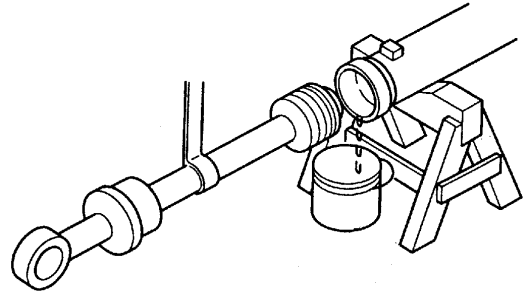

Figure 9
2. Support cylinder rod with a lifting sling. See Figure 9. Slide cylinder rod out of cylinder tube. Rotate cylinder rod slightly as it is being pulled from cylinder tube. This will make it easier to pull rod out of tube.